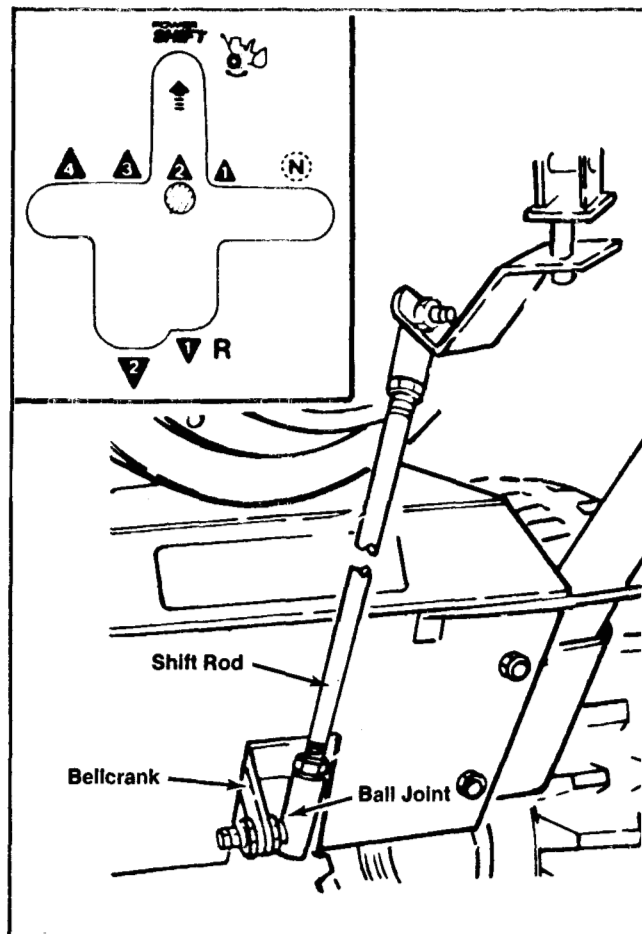

Figure 9
NOTE: If gear shift lever is not aligned with the Power Shift slot in control panel (see Figure 9 inset), shift rod length must be adjusted as follows:
- a. Disconnect the ball joint from bellcrank and move the jam nut up shift rod. See Figure 9.